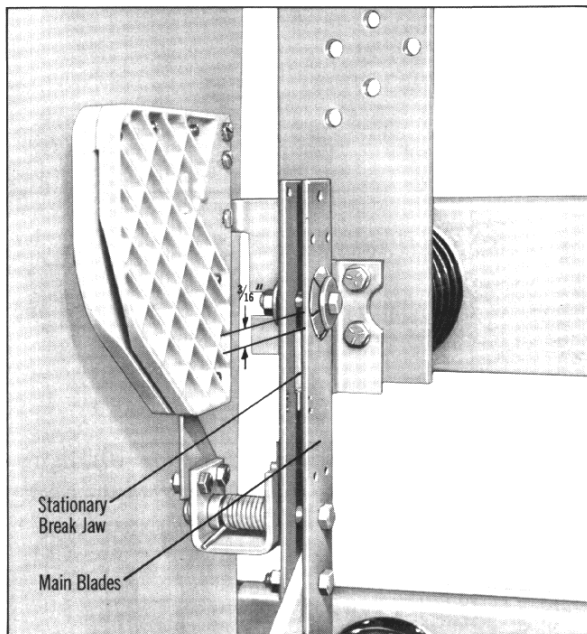

Fig. 12 Main Blade Spacer Adjustment
d. With the switch closed, the upper spacers of the main blades should rest $3/16'' \pm 1/16''$ above the bottom of the depression of the stationary break jaw (see Fig. 12).
Close the switch. Check that the upper spacers of the main blades are $3/16'' \pm 1/16''$ above the tops of the break jaws. (See Fig. 12.) If they are not, loosen the bolts holding the break jaw support insulator to the back pan. Adjust as necessary. When setting is correct, tighten bolts to proper torque value.